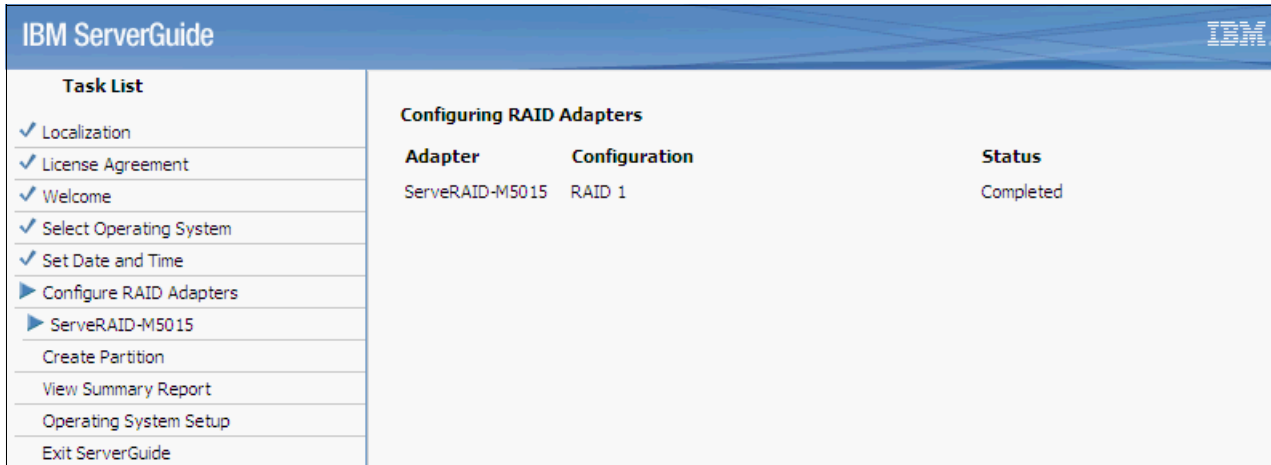

Figure 9-52 RAID configuration panel
12. A Confirmation window opens indicating that RAID configuration is complete (Figure 9-52 on page 504). Click **Next**.